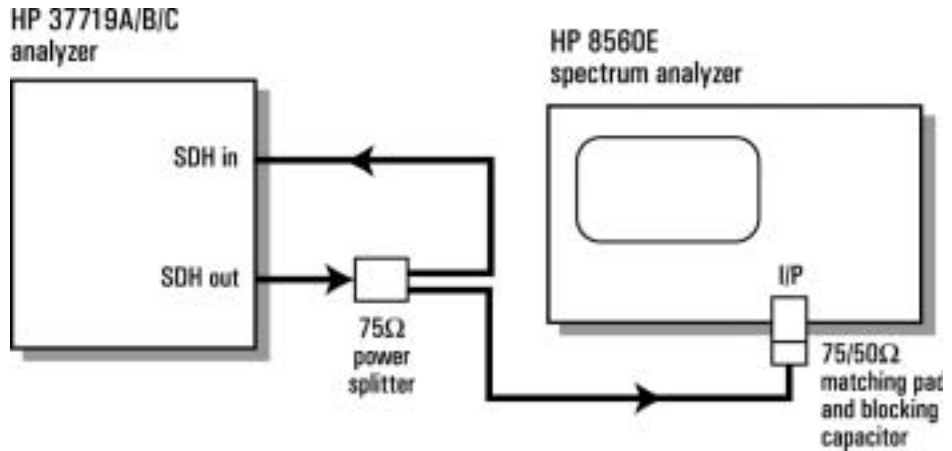

Figure 3-9 STS-1 Electrical Transmit/Receive Test Setup
- 3 Connect up the equipment as shown in Figure 3-9.